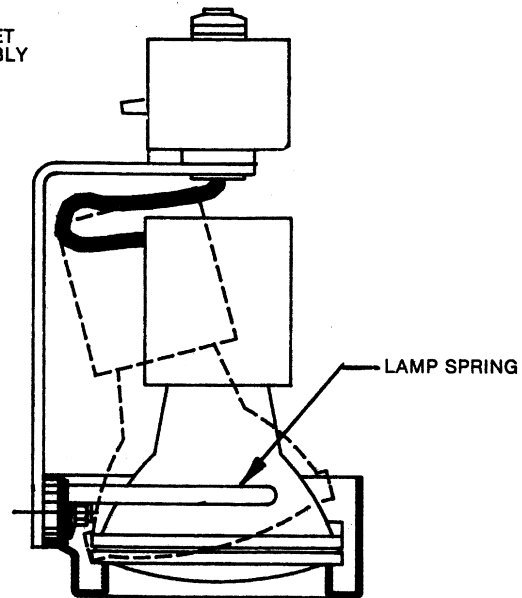

FIG. 6
3. Insert LAMP into RING until LAMP SPRING is engaged fully (Fig. 6).